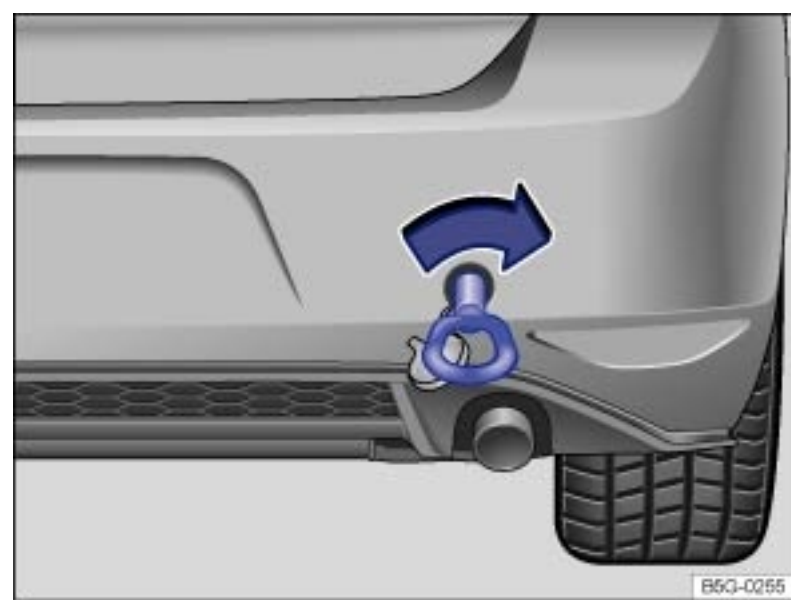

Fig. 229 In the right rear bumper: Installing the towing eye.
→ Fig. 229.
- Screw the towing eye clockwise into the threaded hole as far as it will go (arrow) → Fig. 229 → ⚠. Use the lug wrench to turn and tighten the towing eye.